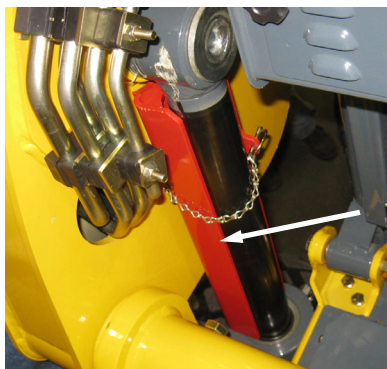

Figure 3 Lift Arm Support Device Engaged
4. Have an assistant remove the lift arm support device from its storage location (Figure 4) on the left side of the machine and install the lift arm support device on the left lift cylinder (Figure 3).